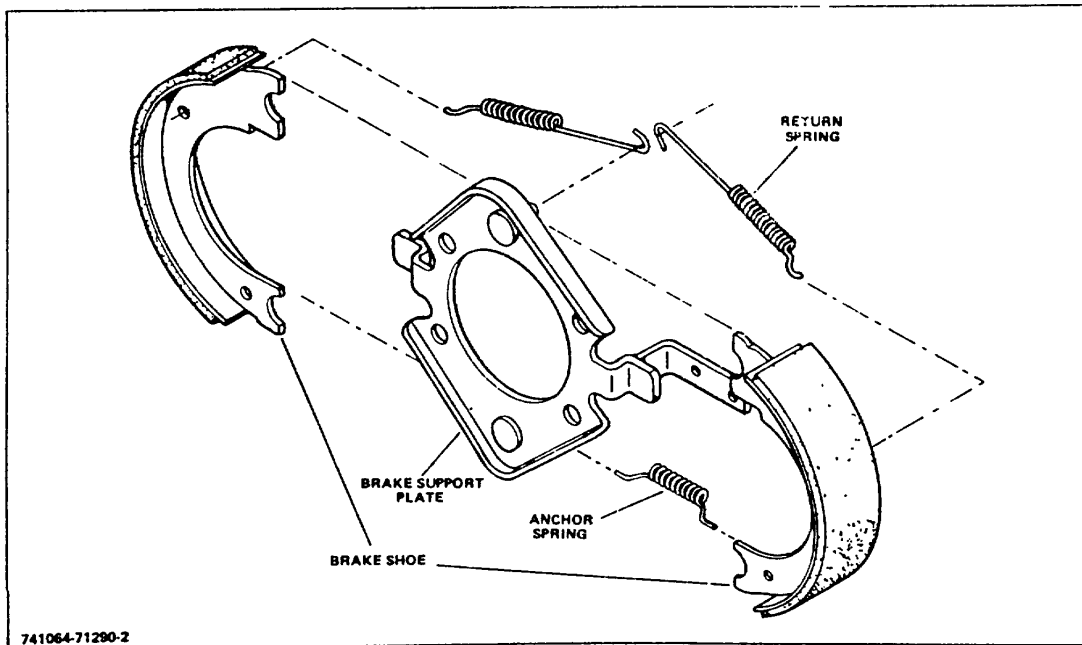

Figure 3-3. Parking Brake Components
- f. Remove return springs, anchor spring, and brake shoes from brake support plate (Fig 3-3); remove brake lever.